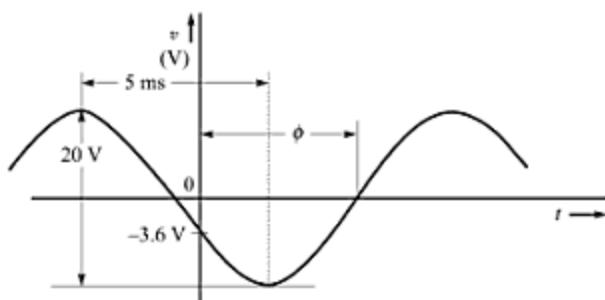

Fig. 9.4
**Solution** Figure 9.4 shows the sinusoid. The maximum value or peak value is half of the peak-to-peak value. The period is the time between the two consecutive peaks. Thus,
As can be seen from Fig. 9.4, the given sinusoid is shifted to right by angle  $\phi$ , which is less than  $180^\circ$ . Also, we know that shifting rightward means there is a lag of angle  $\phi$ . Therefore, the equation of the given sinusoidal voltage is